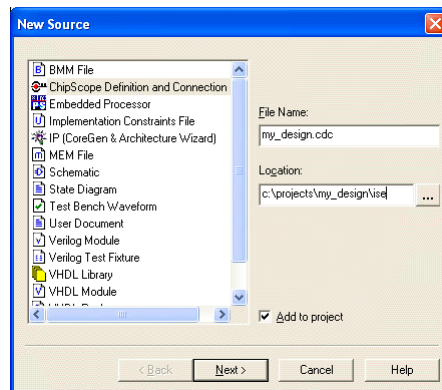

Figure 3-1: Creating a New .cdc Source
- a. To create a new .cdc file, select **Project** → **New Source**, then select **ChipScope Definition and Connection File** and give the file a name (Figure 3-1, page 3-2). Click through the remaining dialog boxes using the default settings, as needed.